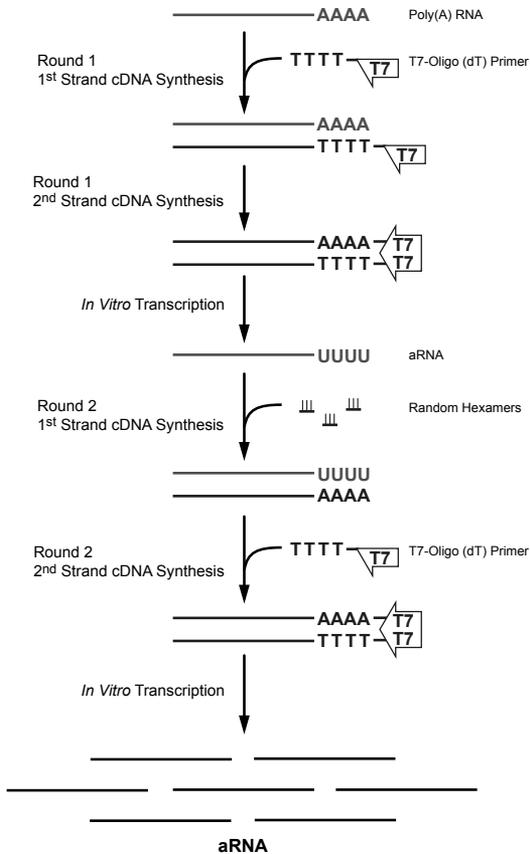

Figure 1. TargetAmp™ 2-Round aRNA Amplification Kit 2.0 Procedure.
The TargetAmp™ 2-Round aRNA Amplification Kit 2.0 utilizes an improved “Eberwine” procedure¹ for amplifying Poly(A) RNA from as little as 10 pg of total cellular RNA. The kit requires both SuperScript III and SuperScript II Reverse Transcriptases (Life Technologies; provided by the user). See Fig. 1.
1. **Round-One, 1st-strand cDNA Synthesis:** The Poly(A) RNA component of a total RNA sample is reverse transcribed into first strand cDNA. The reaction is primed from a T7-Oligo(dT) primer...a synthetic oligo(dT) primer containing a phage T7 RNA Polymerase promoter sequence at its 5'-end. Round-one, 1st-strand cDNA synthesis is catalyzed by SuperScript III Reverse Transcriptase (provided by the user) and performed at an elevated temperature to reduce RNA secondary structure.